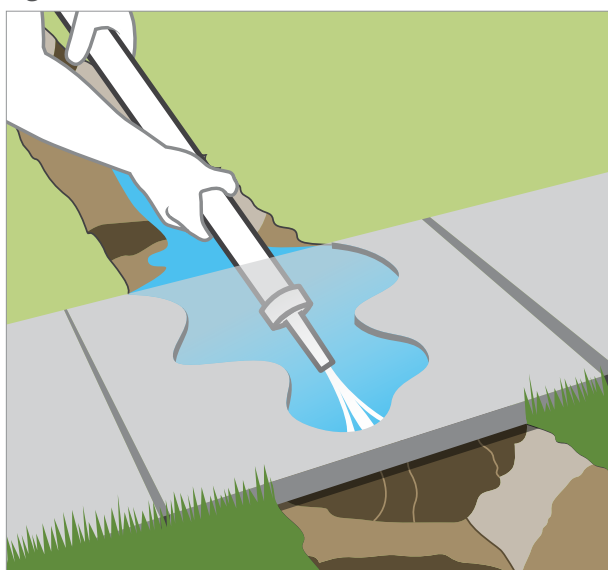

Figure 3
5. Installing Pipe Under a Walkway or Driveway: Jetting Method —Using a pipe-to-hose threaded adapter, connect one end of the pipe to a garden hose and attach a small stream hose nozzle to the other end. Turn the water on and jet under the concrete *Figure 3*.